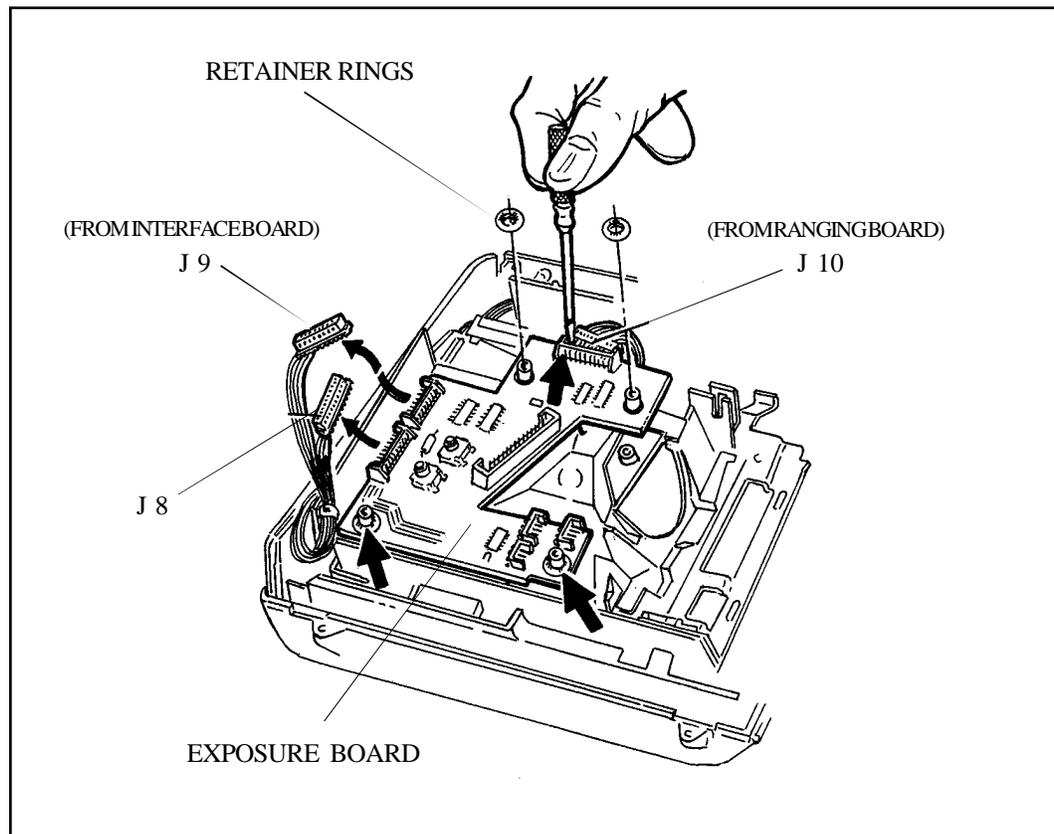

Figure 3-15. Removing Retainers and Connectors from Exposure Board
- a. Remove the four rubber Retainer rings from the molded studs on the Bellows/Cone Assembly, which secure the Exposure PC Board (Figure 3-15).
- b. Disconnect the Ranging Board (J10) and two Interface Connectors (J9 and J8) from the Exposure Board and remove the Exposure Board (Figure 3-15).